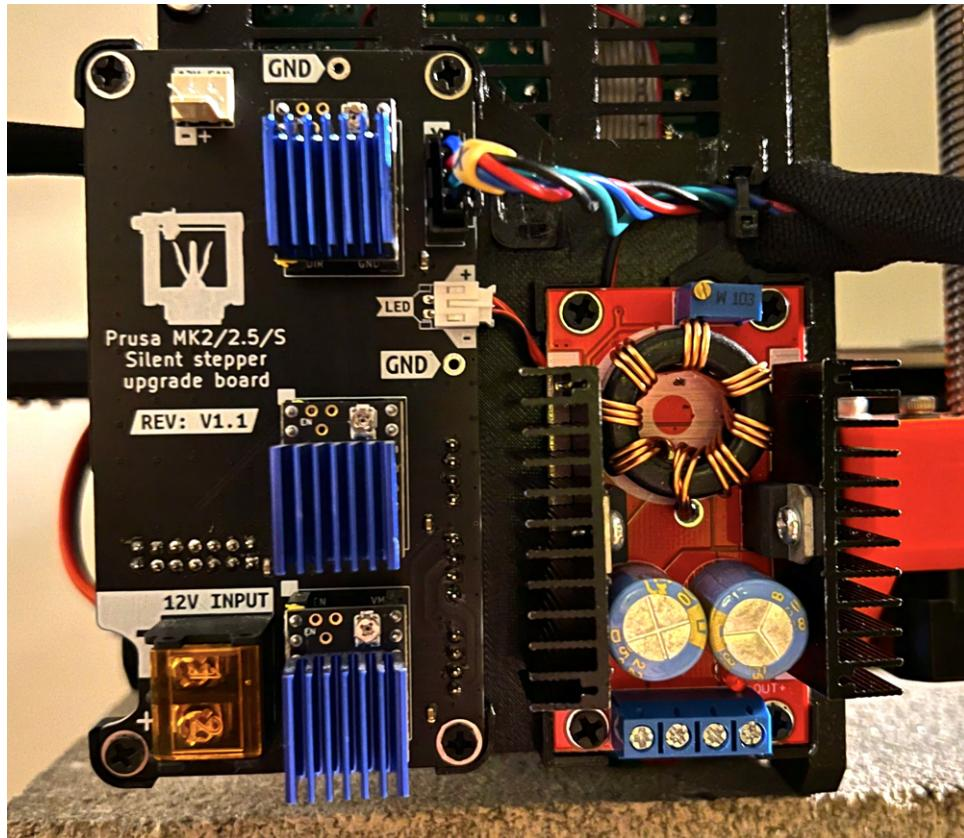

Figure 23: Boost converter mounted.
1. Securely mount the boost module using 4 self-tapping screws, as depicted in Figure 23. Please note that if you have the 24V-capable version of the light, you have the option to route the cable underneath the boost converter (refer to the Figure). However, exercise caution in that case to prevent the cable from being pierced by any of the metal legs on the boost converter.